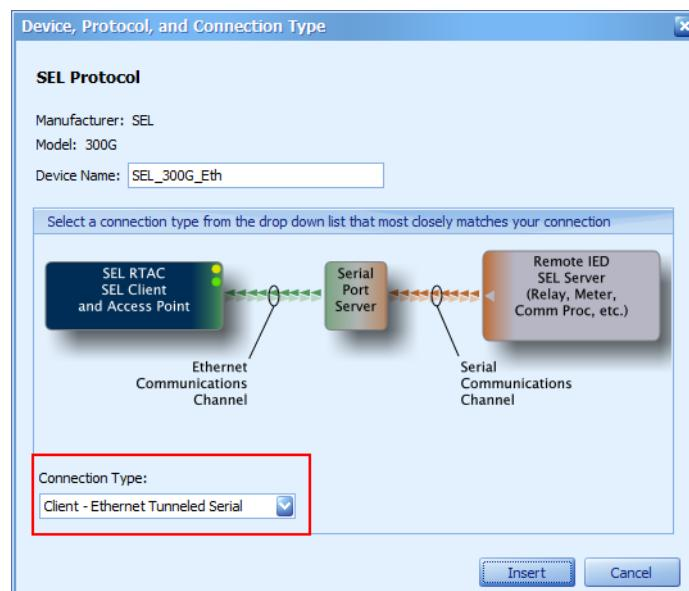

Figure 161 Client Ethernet Connection
Step 13. If you followed *Step 9* through *Step 12* to set up a serial connection, skip this step and *Step 14*. For an Ethernet connection, add the SEL-300G with SEL Protocol, as described in *Step 7*. In the window that appears, select **Client - Ethernet Tunneled Serial** as the **Connection Type** (see *Figure 161*).